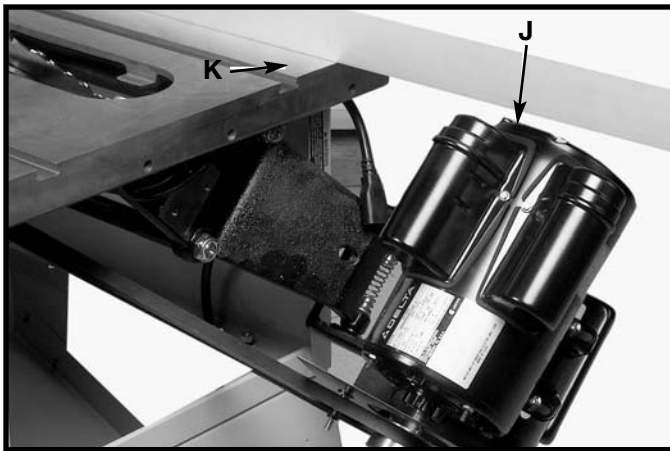

Fig. 20
8. **⚠ WARNING** IMMEDIATELY AFTER ASSEMBLING THE BELT, RAISE THE SAW BLADE TO ITS MAXIMUM HEIGHT AND TILT THE SAW BLADE TO 45°. CHECK TO SEE IF THE MOTOR (J) FIG. 20 IS BELOW THE TOP OF THE TABLE SURFACE (K). IF THE MOTOR (J) IS ABOVE THE TOP OF THE TABLE SURFACE, MOVE THE MOTOR TO THE LEFT UNTIL THE END OF THE MOTOR (J) IS BELOW THE TOP OF THE TABLE SURFACE. THEN RE-ALIGN THE MOTOR PULLEY TO THE ARBOR PULLEY.